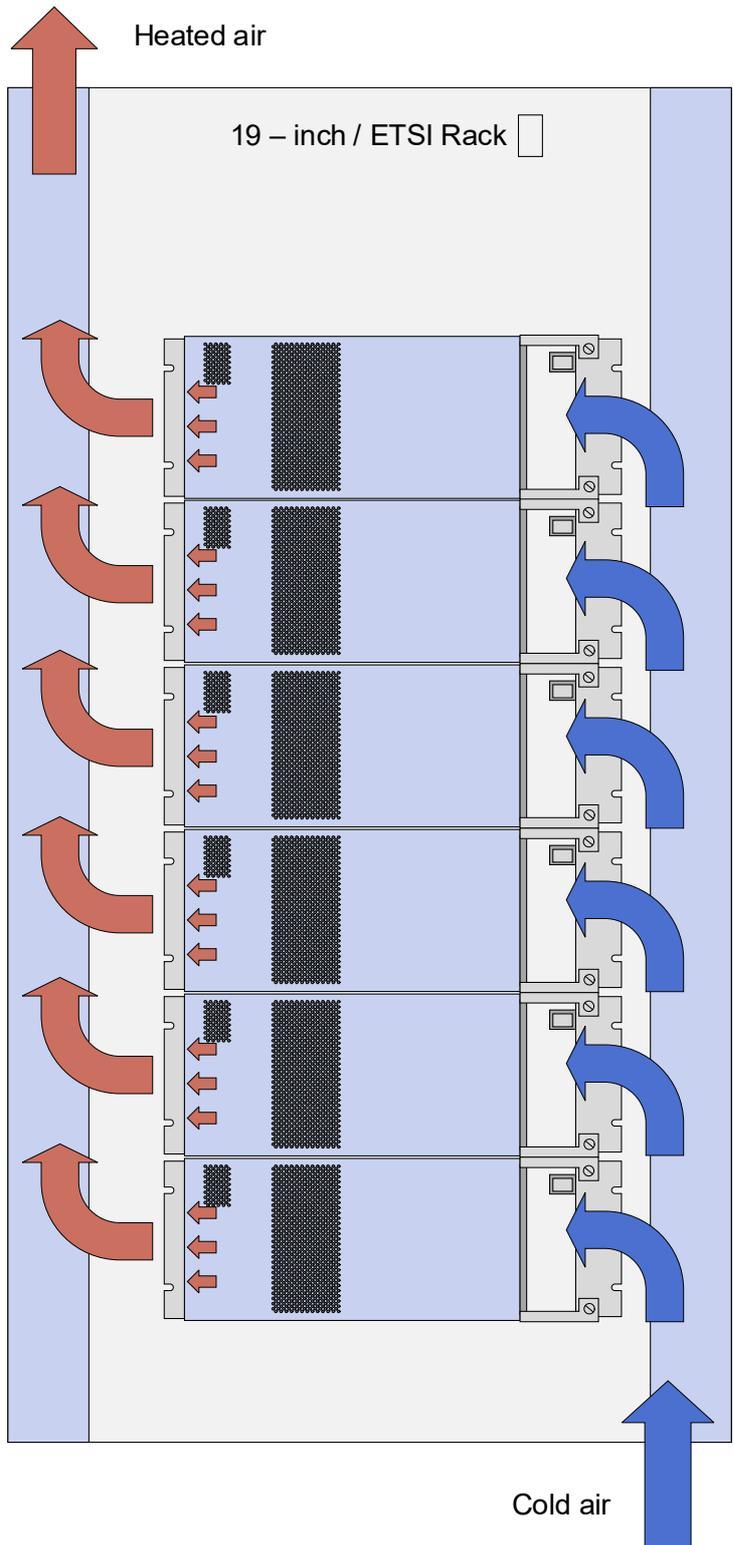

Figure 3: Horizontal installation of stacked FOX612 subracks in 19-inch or ETSI racks
- Enable free airflow from the top left side of the rack (Figure 3) to evacuate the heated air to evacuate the heated air from the top of the rack.
- Enable free airflow into the right bottom side of the rack to allow cold air (refer to Figure 3) to enter into the rack below the equipment.